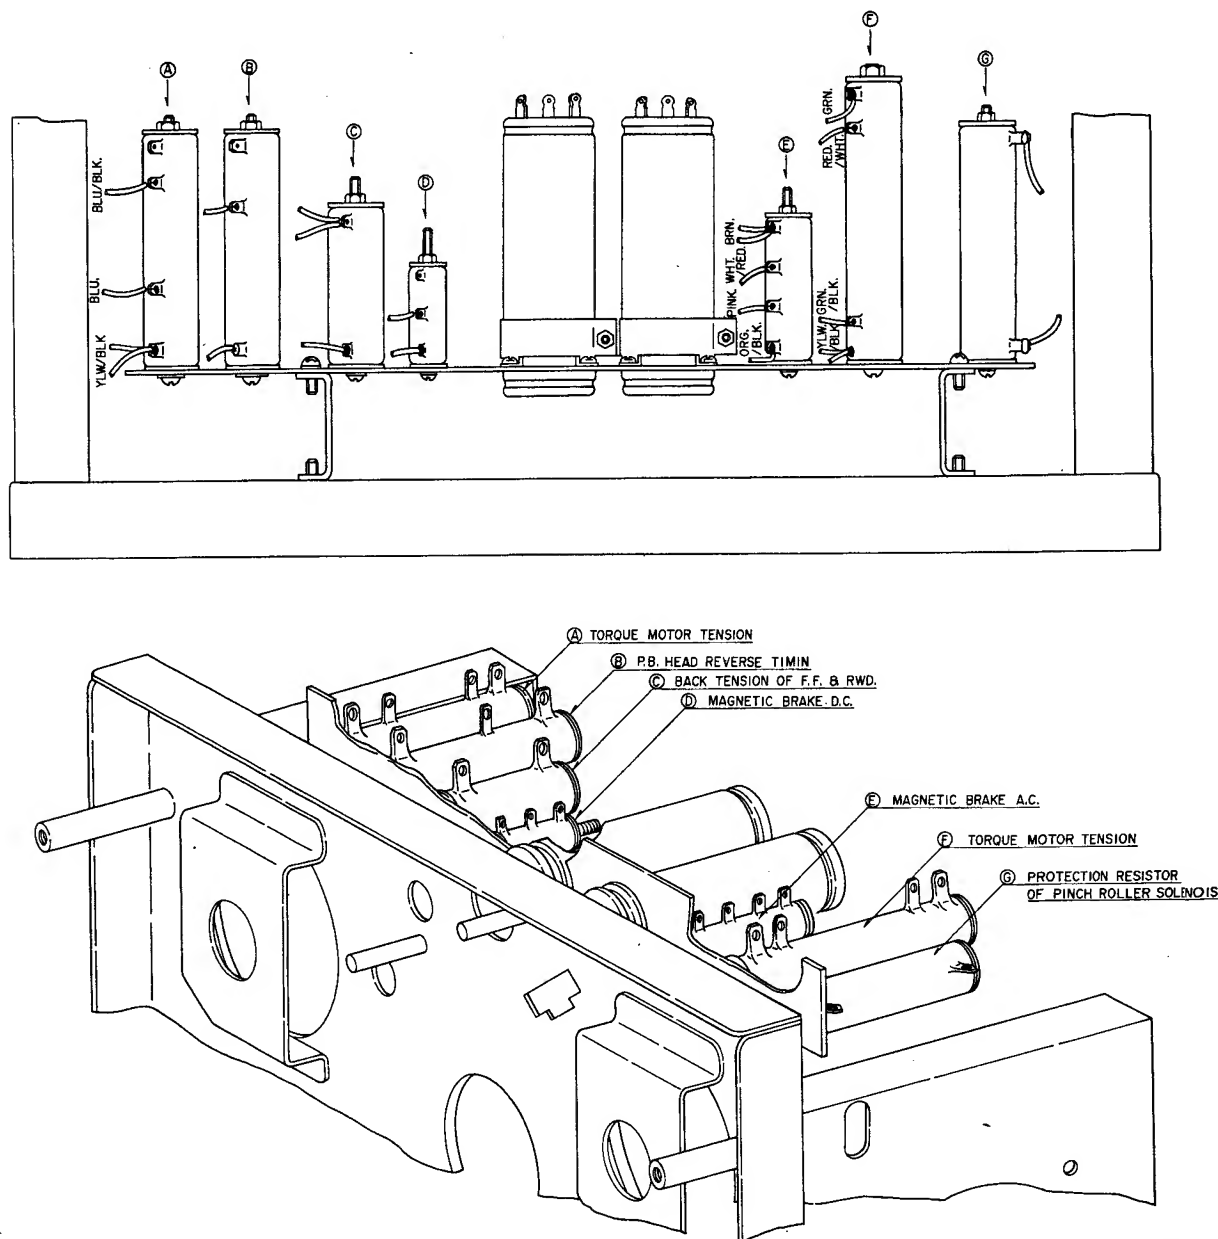

Fig. 5
- 2) Take-Up tension for "Normal Play" depends upon the torque of Motor B. Take-up tension is about 100 grams which is applied through the 120 Ω Resistor (A), as shown in Figure 5. At this tension setting, voltage applied to Motor B is approximately 41 V.
- 3) Back tension for "Normal Play" depends upon the torque of Motor A, as shown in Figure 6. Back tension is about 60 grams which is applied through 230 Ω Resistor (F), as shown in Figure 5. At this tension, voltage applied to Motor A is approximately 29 V.
- 4) Take-up tension for "Reverse Play" depends upon the torque of Motor A. Adjust Take-up tension to about 220 grams by adjusting the 120 Ω Resistor (A), as shown in Figure 5. At this tension, voltage applied to Motor A is approximately 62 V.
In such a case adjust 650 Ω Resistor (B), as shown in Figure 5, so that 38 Volts is applied between the terminals (white and gray wire) (Reverse Head Solenoid Coil).
- 1) Adjust 400 Ω Resistor (E) (in Figure 5) so that the terminals on each end of the Resistor are equidistant.
- 2) Center the Slider of the 1 K Ω Resistor (D), as shown in Figure 5. (D.C. Brake)
- 4) If the tape turns in the rewind direction, increase D.C. Brake voltage by adjusting the Slider (1) of the 1 K Ω Resistor (D) to decrease resistance, or adjust slider (1) toward terminal (3) of the 400 Ω Resistor (E), as shown in Figure 5. Also verify that Brake Band tension is accurately adjusted to 150 grams.
- 5) Set the Magnetic Brake Control Switch to 1 mil or 1/2 mil and check the following: FAST FORWARD \rightarrow STOP, REWIND \rightarrow STOP. If the tape loses its tension and becomes slack at STOP, move the Slider (2) of 400 Ω Resistor (E) toward Slider (1), as shown in Figure 5.
- 1) Adjust the slider of the 1.7 K Ω Resistor (C), shown in Figure 5, so that overall resistance is 1.3 K Ω . If Resistor (C) itself is 1.3 K Ω , no adjustment is required.